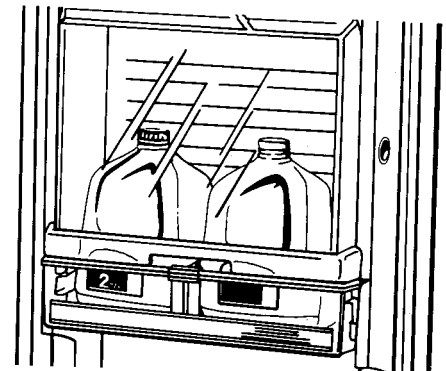

FIGURE 80
**Hugger.** A handy bucket hugger slides back and forth along 'chiller' bucket to prevent items from falling over. See Figure 80.